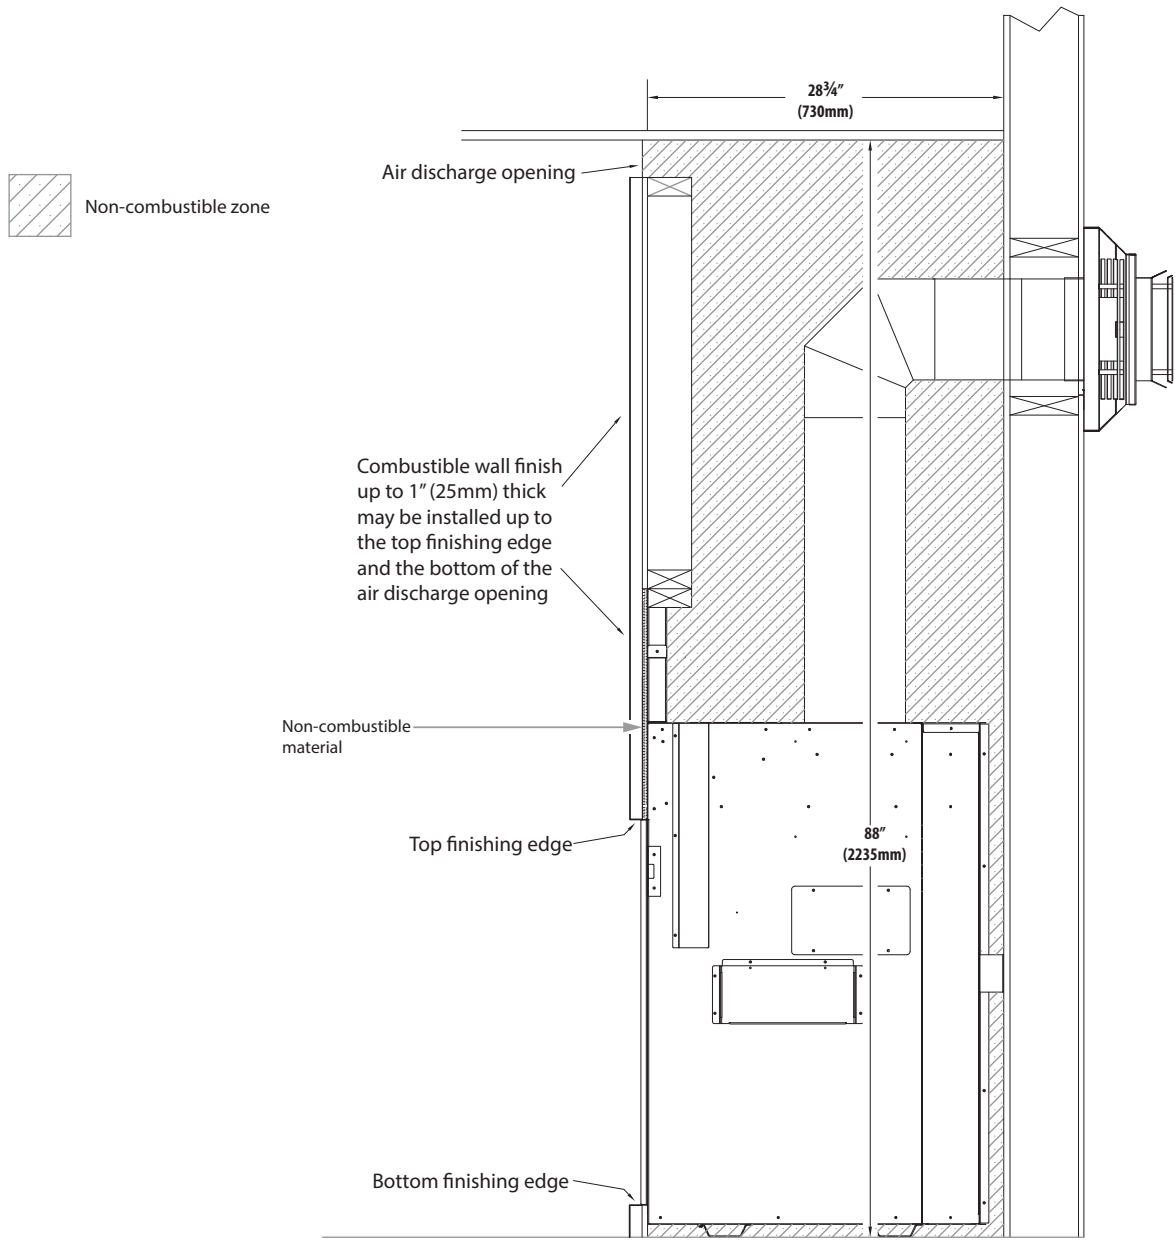

Figure 4.8, Combustible Wall Finish up to 1" (25mm) thick
- Figure 4.8 on page 38 shows installation of combustible wall finish up to 1" (25mm) thick for Komfort Zone Kit(s) and Vented Cavity installations. For KZK-1510 and KZK-052 installations, reference the manuals included with the kit.